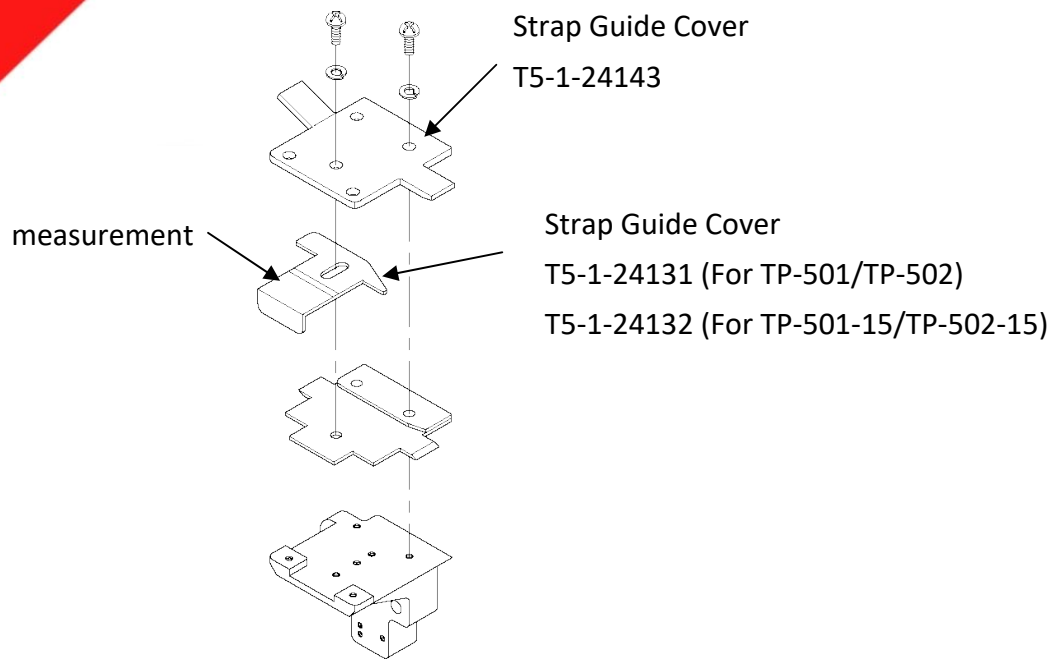

Fig.6.
3. Loosen the 5 screws outside the Strap Guide B (T5-1-24131 / T5-1-24132) and adjust its position according to the scale indicated. ( refer to fig. 6)